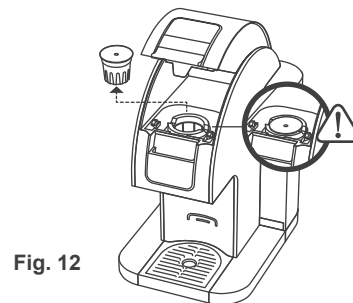

Fig. 12
8. Pull the Latch and dispose of the used Pod. (Fig. 12)
CAUTION: Pod will be HOT! (Fig. 12)